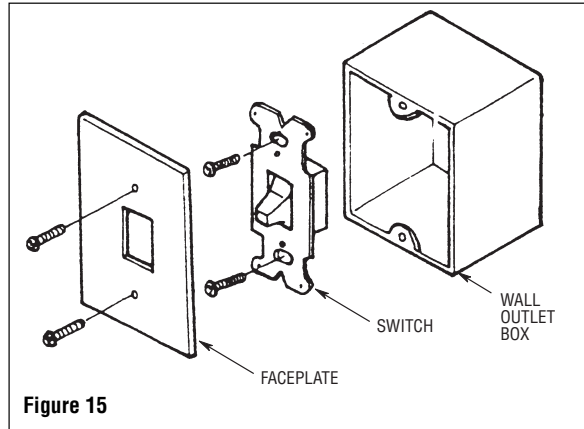
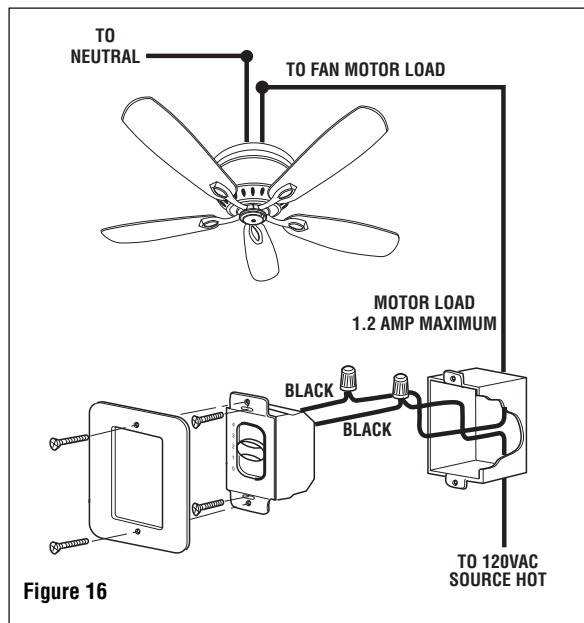

Figure 15
Figure 16
2. Disconnect wires from existing fan wall switch (Figure 15).
3. Slide the fan control in the OFF position (0).
4. Connect one BLACK wire from the fan control to the fan/motor lead with a wire connector (provided). (Figure 16).